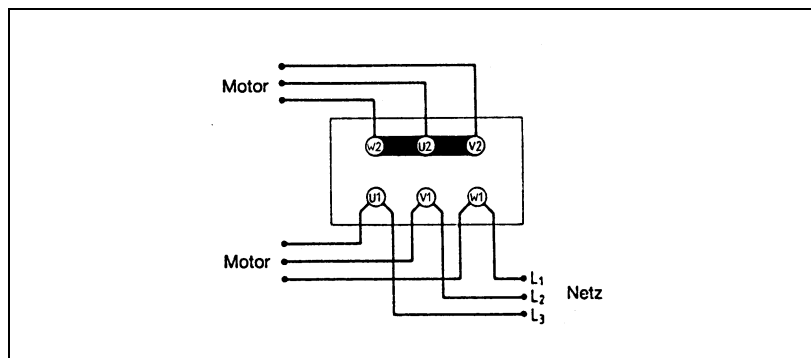

Fig. 8: Y-Connection (high voltage)
4. Connection of pumps with 3 phase motor according to figs. 8 or 9.